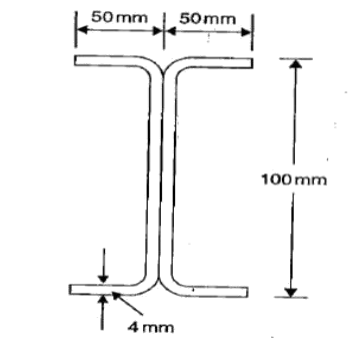

Figure 2
3. Find the permissible load on the column shown in the Figure2. The effective length of the column is 3m [12M]
4. Calculate the permissible load on the column section shown in Figure2. The effective length of the column is 3m. [12M]